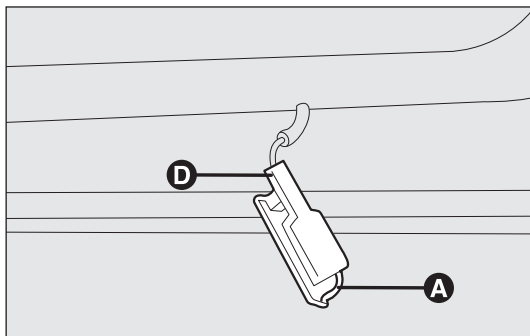

fig. 186
PUDDLE LIGHTS fig. 186
- ☐ remove the light by pressing clip A-fig. 186 with a screw-driver;
- ❑ refit the light by first inserting side D-fig. 186 and then pressing the other side until you hear the clip lock into place.